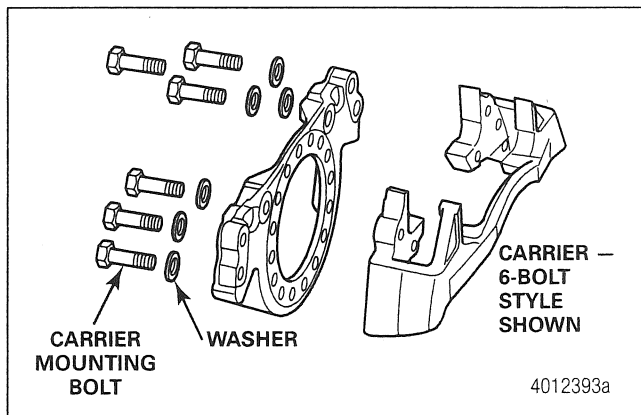

Figure 3
- **For Meritor EX+ air disc brakes:** Use a 30 mm-size socket wrench to tighten the carrier mounting bolts to 400 lb-ft (542 N•m). Figure 3.